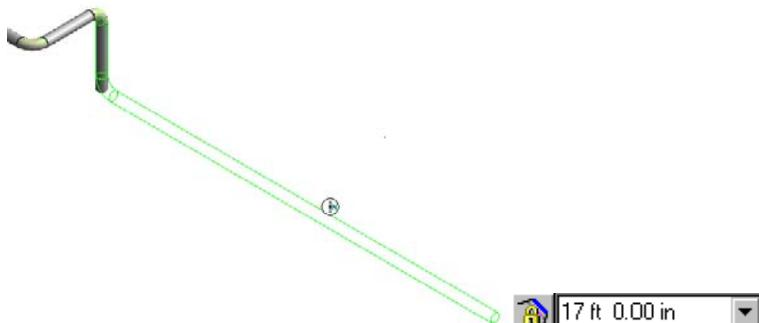

Figure 24: Routing Pipe in the North Direction
23. Key in **17 ft** in the **Length** drop-down list on the **Route Pipe** ribbon and position the cursor in the south direction until SmartSketch displays the **N** glyph, as shown in Figure 24.